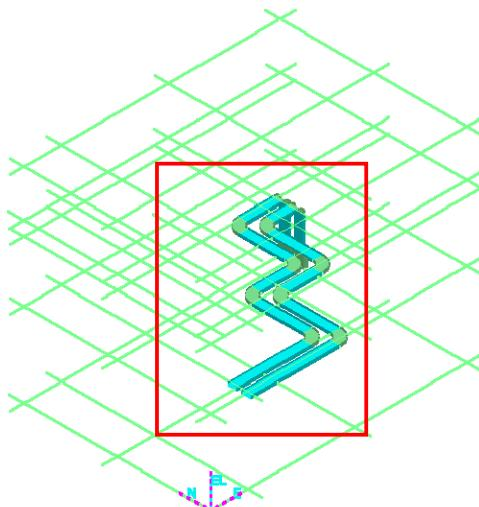

Figure 62: Routed Horizontal Multi Tray
5. Start routing the multi tray starting from the **EL** direction about **15 ft**, as shown in Figure 62.